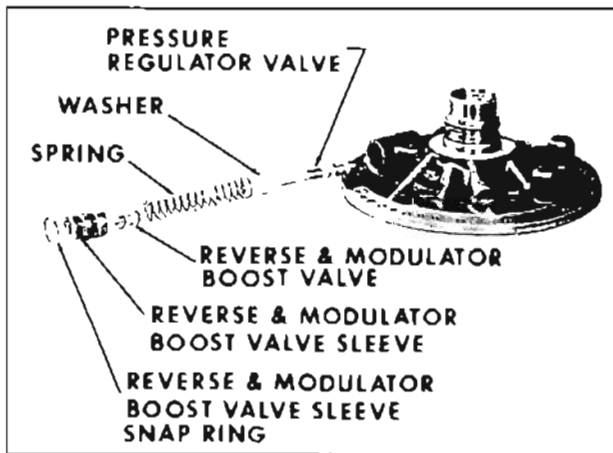

Fig. 6-341 Pressure Regulator Valve—Exploded View
5. Assemble pressure regulator valve, washer, spring, reverse and modulator boost valve and sleeve. (Fig. 6-341)